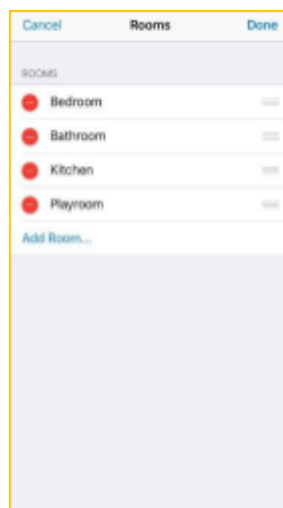

Figure 39
**10.9.5.** Select the desired room from the list by clicking  (Fig. 39).